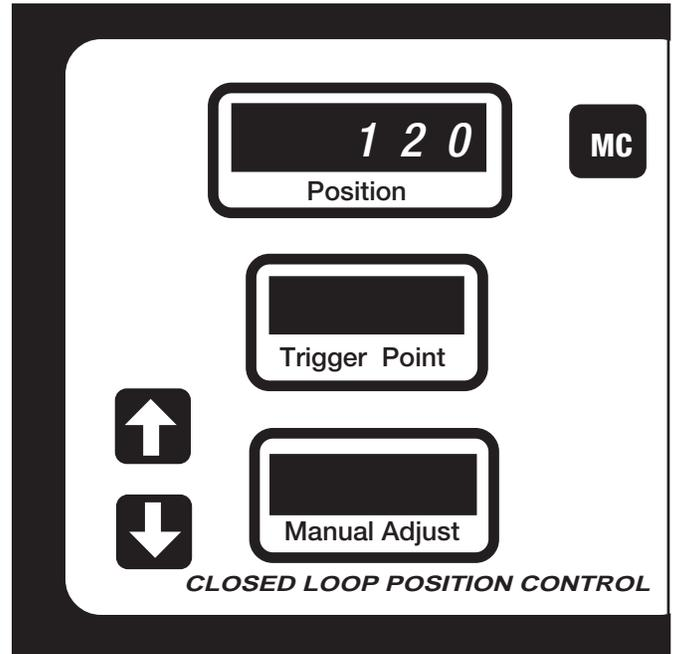

Figure 3.3 - Setting the Max Count
1. Set the Max Count on the front of the control panel using the **UP** and **DOWN** Buttons plus the **MC** Button. Push and hold the **MC** Button down while pushing the **UP** or **DOWN** Button to set the **Max Count to 120** which will be shown in the **Position Indicator**. (See Figure 3.3)